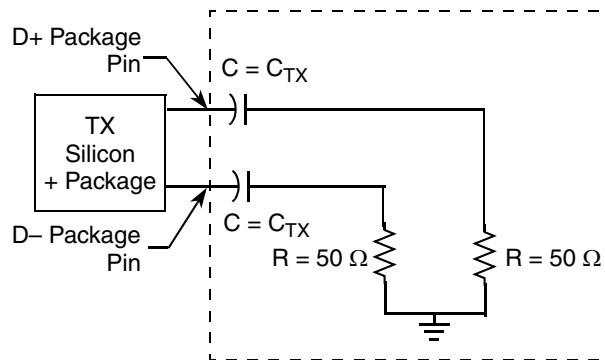

Figure 58. Test/Measurement Load
1. Specified at the measurement point into a timing and voltage compliance test load as shown in Figure 58 and measured over any 250 consecutive Tx UIs.
1. Specified at the measurement point and measured over any 250 consecutive UIs. The test load in Figure 58 must be used as the Rx device when taking measurements. If the clocks to the Rx and Tx are not derived from the same reference clock, the Tx UI recovered from 3500 consecutive UI must be used as a reference for the eye diagram.
2. Specified at the measurement point into a timing and voltage compliance test load as shown in Figure 58 and measured over any 250 consecutive Tx UIs.
The AC timing and voltage parameters must be verified at the measurement point. The package pins of the device must be connected to the test/measurement load within 0.2 inches of that load, as shown in Figure 58.
2. Specified at the measurement point and measured over any 250 consecutive UIs. The test load in Figure 58 must be used as the Rx device when taking measurements. If the clocks to the Rx and Tx are not derived from the same reference clock, the Tx UI recovered from 3500 consecutive UI must be used as a reference for the eye diagram.